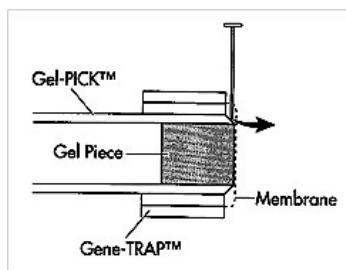

Figure 5: Pierce the membrane.
17. Place the GeneCAPSULE™ on a dry surface. Puncture a small hole in the membrane at the DNA collection port (see Figure 5) with provided pin. Do not force the pin downward into the membrane; this will damage the membrane and spill the DNA.